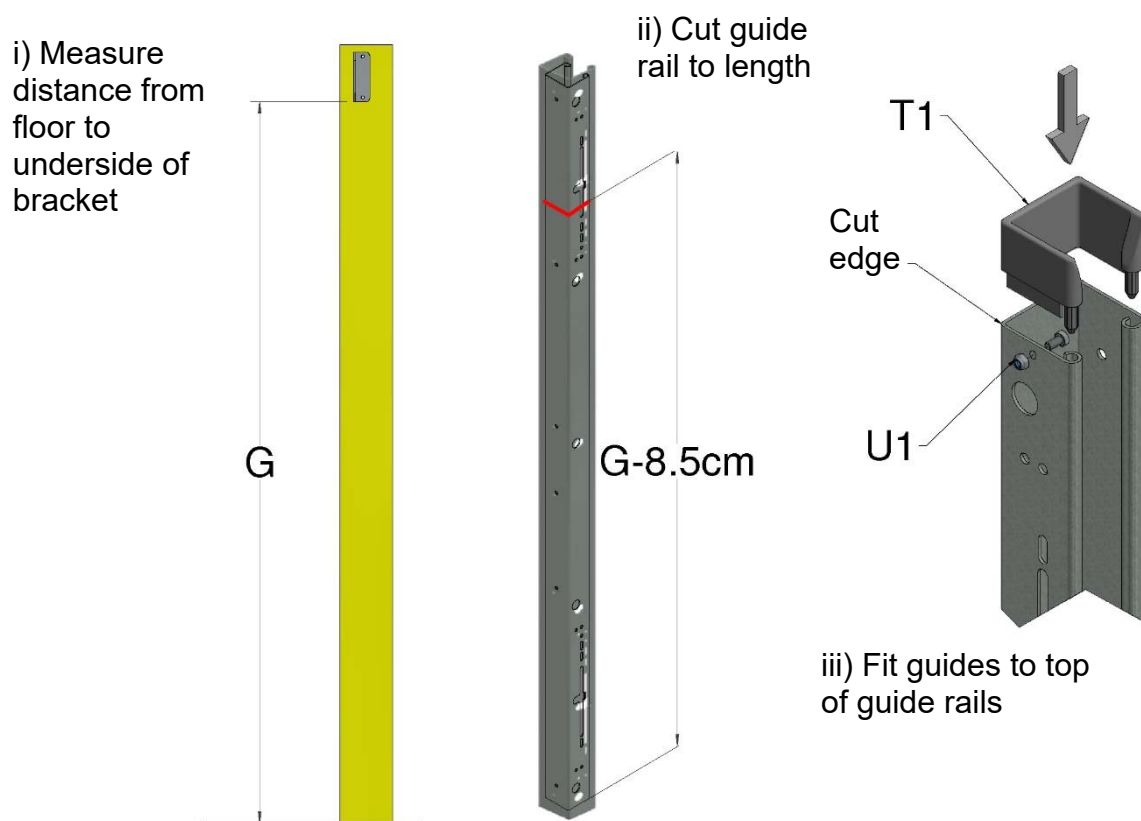

Figure 11, Cutting Lengths of Guide Rails
8. Measure the height from the underside of the top bracket to the floor and equally cut the guiderails as per figure 11. Make sure that the un-cut end with the slot and holes is at the bottom ready to accept the locking catches. Fit the pair of guides into the top of the guide rails (cut end) and secure with the M6x12 bolt and nut (U1) in the front face, Figure 11.